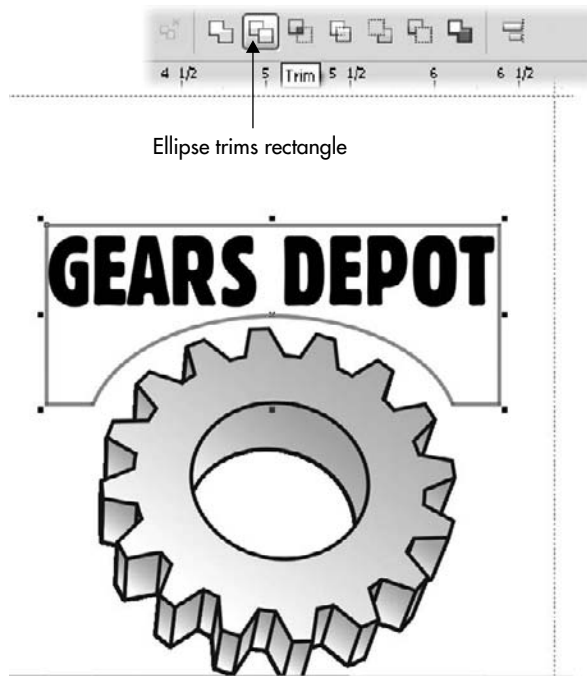

FIGURE 4-8 Subtract a partially overlapping shape to create the envelope template for the text.
8. Click the Trim button, as shown in Figure 4-8. With the Pick Tool, select the spare ellipse that is kept on the page after the Trim operation, and then delete it (CTRL+X). The new shape will serve as the shape for the text when you envelope it.